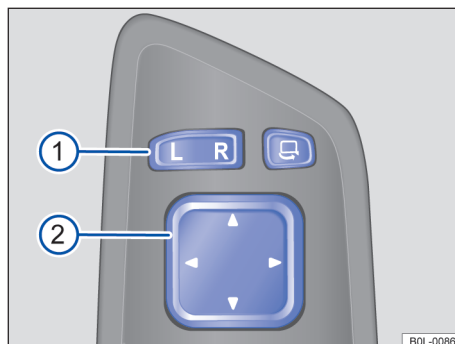

Fig. 74 In the driver door: operating elements for the exterior mirrors.
- Press the button → Fig. 74 ① in the driver door to the desired position.
- To adjust the exterior mirror, press the button ② forward, back, right or left in the direction of the arrows.